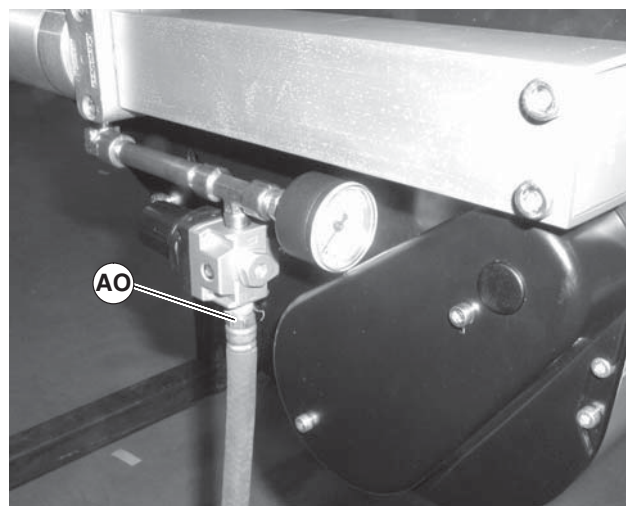

Figure 69
1. Remove air supply and remove hose (Figure 69, item AO) from center drive.